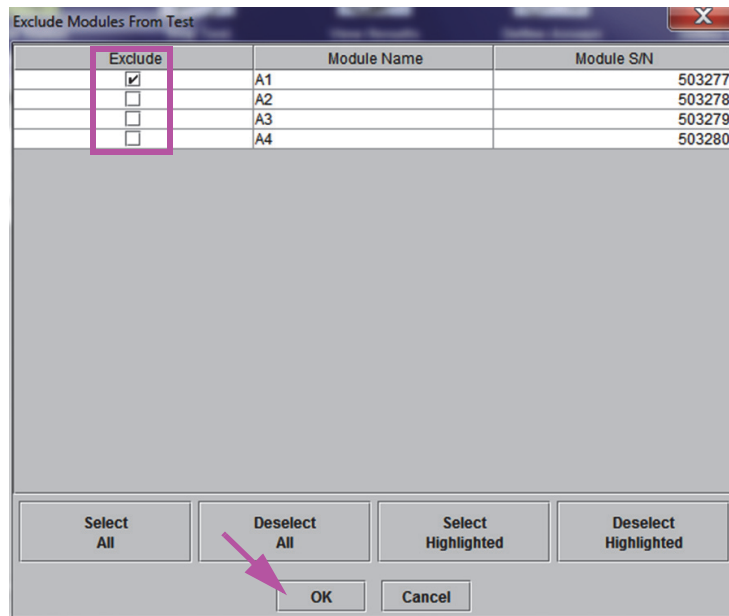

Figure 9-16. Exclude Modules From Test Dialog Box
2. Click on **Maintenance** on the menu bar and select **Exclude Modules From Test**. The Exclude Modules From Test dialog box appears. See Figure 9-16.
4. Press the **OK** button to save changes to the Exclude Modules From Test dialog box (see Figure 9-16).